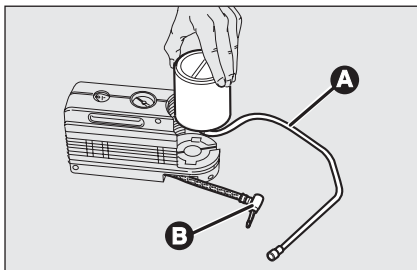

fig. 20
- disconnect connection **B**-fig. 20;